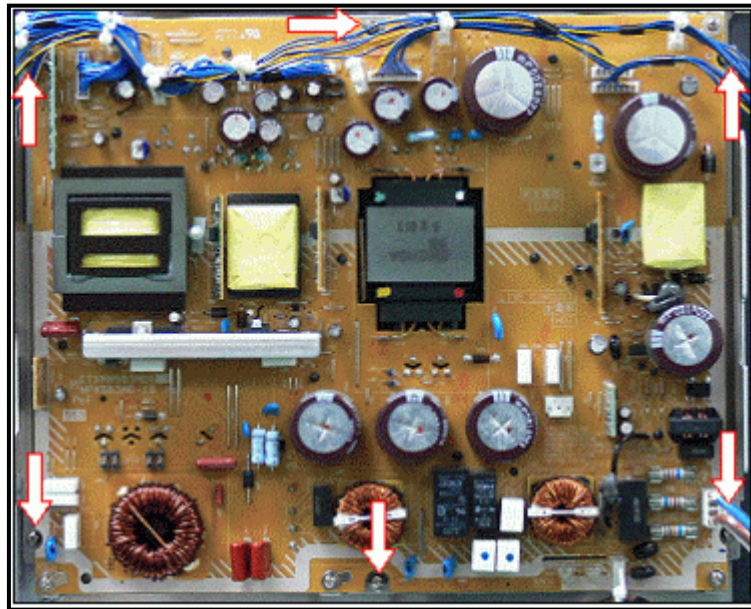

Figure 21. P Board
7. Mount the six screws as indicated in Figure 21.